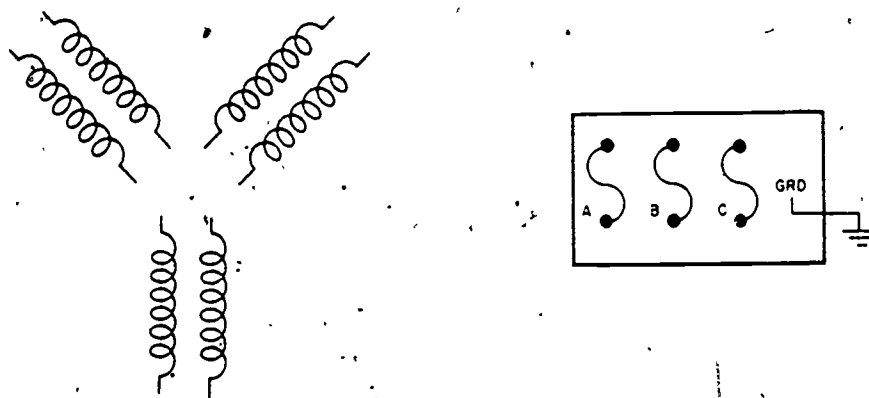

Figure 4. 220-Volt Circuit Diagram
2. Complete the schematic diagram in figure 4 by numbering the motor windings and drawing in the necessary connections and conductors for applying 220-volt power to the motor for low voltage.